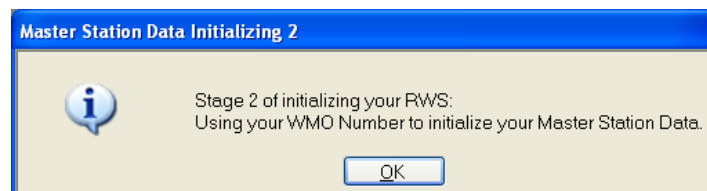

Figure A-13: Master Station Data Initializing 2 Window
3. Click **OK** to dismiss the *NOAA Warning* window. RWS will open with the *Master Station Data Initializing 2* window to indicate the Station WMO Number was used to initialize the Master Station Data (Figure A-13).